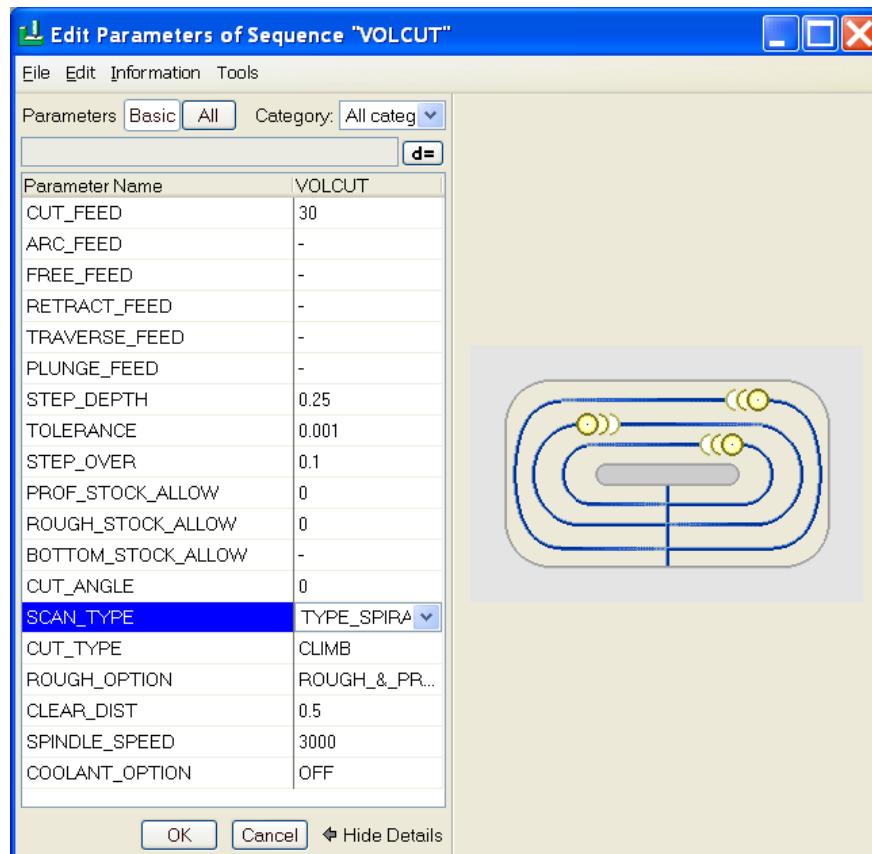

Figure 1.33
5. Edit Parameters window pops up. Input or change the values as shown in Figure 1.33. File → save as to file called "milprmVol" → click OK to exit.
5. Edit parameters window pop up. File → open → select milprmVol → open → Ok (see figure 1.33).